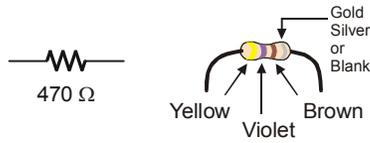
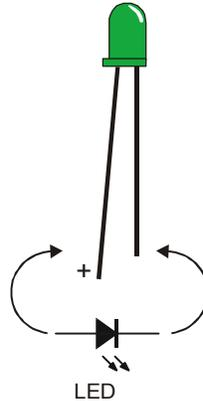

Figure 2-2
Figure 2-4
A resistor is a component that 'resists' the flow of electricity. This flow of electricity is called current. Each resistor has a value that tells how strongly it resists current flow. This resistance value is called the ohm, and the sign for the ohm is the Greek letter omega - Ω . The resistor you will be working with in this activity is the 470 Ω resistor shown in Figure 2-2. The resistor has two wires (called leads and pronounced "leeds"), one coming out of each end. There is a ceramic case between the two leads, and it's the part that resists current flow. Most circuit diagrams that show resistors use the symbol on the left with the squiggly lines to tell the person building the circuit that he or she must use a 470 Ω resistor. This is called a schematic symbol. The drawing on the right is a part drawing used in some beginner level Stamps in Class texts to help you identify the resistor in your kit.
Figure 2-4 shows an LED's schematic symbol and part drawing. An LED has two terminals. One is called the anode, and the other is called the cathode. In this activity, you will have to build the LED into a circuit, and you will have to pay attention and make sure the leads connected to the anode and cathode are connected to the circuit properly. On the part drawing, the anode lead is labeled with the plus-sign (+). On the schematic symbol, the anode is the wide part of the triangle. In the part drawing, the cathode lead is the unlabeled pin, and on the schematic symbol, the cathode is the line across the point of the triangle.
Identifying the parts: In addition to the part drawings in Figure 2-2 and Figure 2-4, you can use the photo on the last page of the book to help identify the parts in the kit needed for this and all other activities. For more information on the parts in this photo, see Appendix B: Equipment and Parts Lists.
- √ Use Figure 2-4 to decide which lead is connected to the LED's cathode. Look for the shorter lead and the flat spot on the plastic part of the LED.